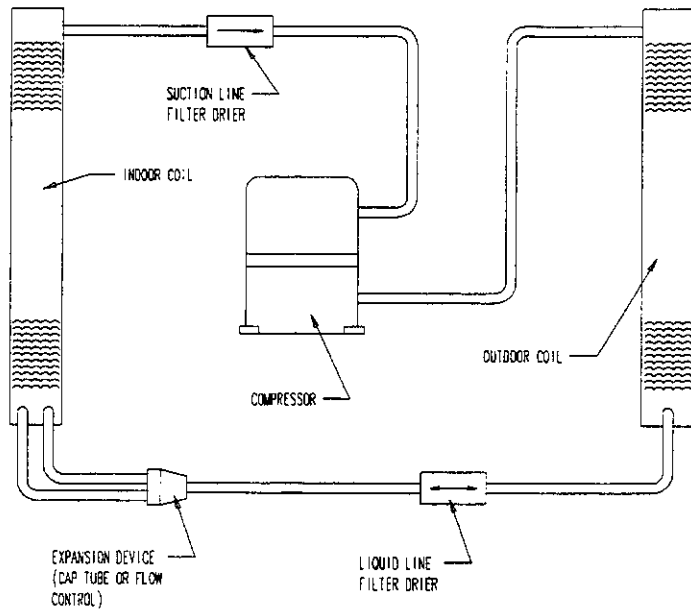

Figure 1 — Typical Air Conditioner Filter Drier Locations
- D. Figures 1, 2, and 3 illustrate the recommended locations for both the liquid line and suction line filter-driers on both air conditioning and heat pump systems. It is imperative that the filter-driers be installed as shown for the heat pumps to assure adequate protection and so that there is no reverse flow of refrigerant through the filter-drier.
1. Capacitor change required. Rewire as original. (See Figure 1 on page 2.)
2. Capacitor must be changed and rewired. (See Figure 1 on page 2.)
5. Rewire capacitor. (See Figure 1 on page 2.)